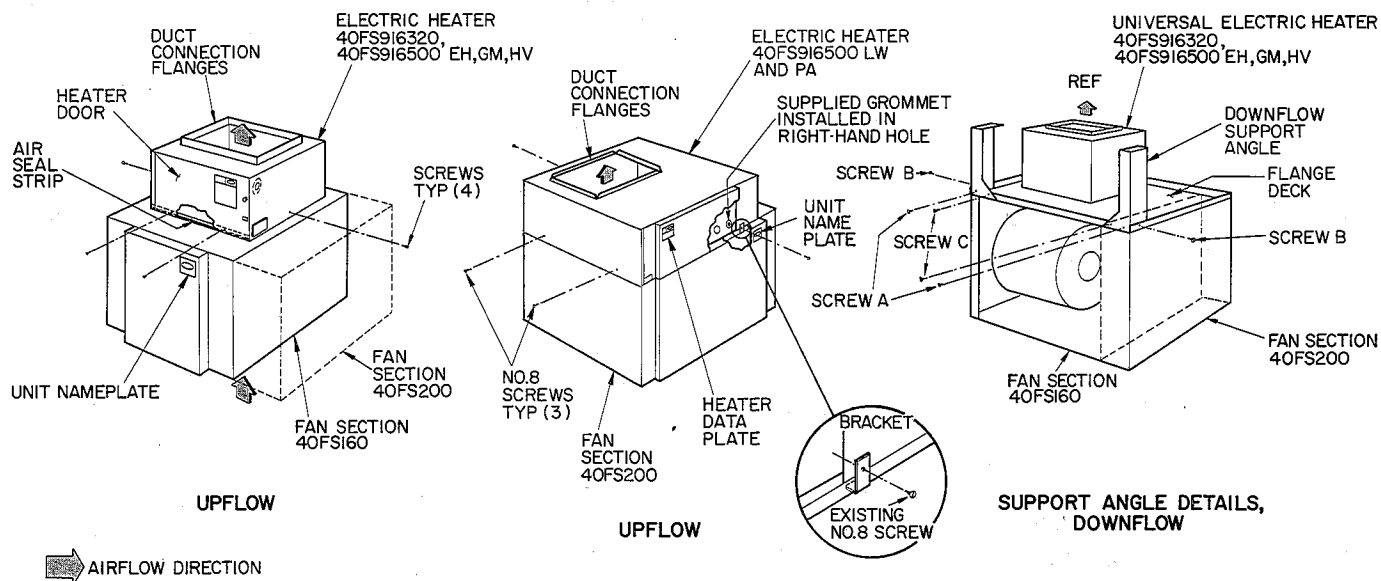
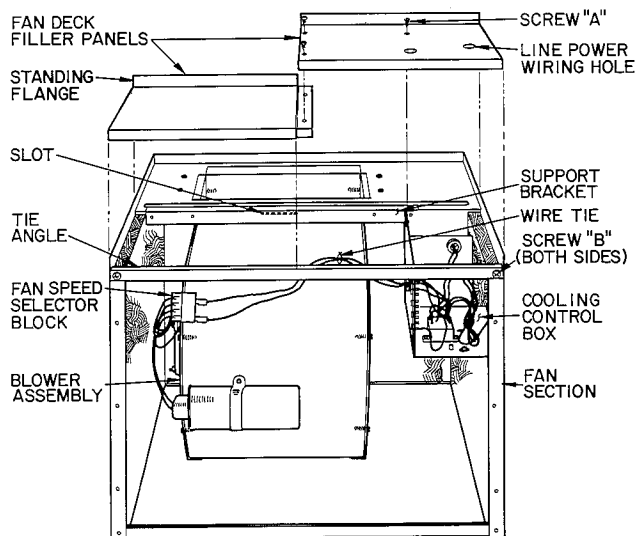

Fig. 3 — Heating Unit Assembly Details
Fig. 11 — Fan Section 40FS; Interior Details
Electric Heater Models 40FS916320, 40FS916330 and 40FS916500EH, GM and HV — Position fan section for upflow air direction. Mount heater on fan section supply air duct connection flanges, and attach with 4 sheet metal screws. Four clearance holes for screws, provided on heater cabinet, can be used as template for drilling engagement holes in duct flanges as required. See Fig. 3. Assembly may be aided by first removing top flange deck from fan section (2 screws hold flange deck in place). Assembled heater and flange deck can then be resecured to fan section. Reposition plug buttons
Electric Heater Models 40FS916500LW, and PA used with Fan Sections 40FS200 and 40FS220 — Position fan section for upflow air direction. Assemble flange deck according to instructions shipped with accessory. Mount heater on fan section supply air duct connection flanges; attach with 3 no. 8-32 self-threading screws and bracket provided as shown in Fig. 3.
1. Position fan-heater combination for upflow arrangement (Fig. 3). Remove screws (4) securing fan cover; remove and set aside cover.
2. Remove tie angle. Save screws "A" (2).
3. Install accessory fan deck filler panels as described in instructions shipped with accessory. Assembly is similar to filler panels on accessory cooling control kit. See Step 6 and Fig. 11.
4. Position support angles on fan section as shown in Fig. 11. Reinstall screws "A" securing support angles and flange deck to fan wrapper.
*HEATER 40FS916320 AND 40FS916500 EH,GM AND HV SHOWN IN FIG.3
Step 6 — Install Accessory Cooling Control Kit on 208/230-volt cooling only applications. As indicated on page 3, kit is not required on units equipped with electric heater. Remove fan section access panel; unpack and install control kit as shown in Fig. 11 as follows:
Step 11 — Set Fan Motor Speed(s) — High, medium or low fan speed leads are provided on motor for choice of fan speeds. Motor leads are factory connected to fan speed selector block located on fan housing (Fig. 11 and 13). Selector block terminal 1 is high fan speed, terminal 2 is medium fan speed and terminal 3 is low fan speed. Model 40FS075 utilizes terminals 1 and 2 only.